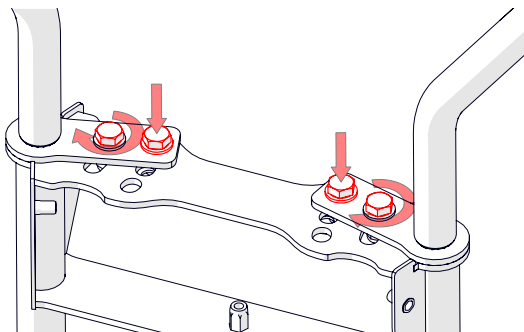

Fig.12H - Insert bolts and tighten (top console removed for clarity).
7. Secure all the bolts and tighten [13 mm spanner] (Fig.12H).